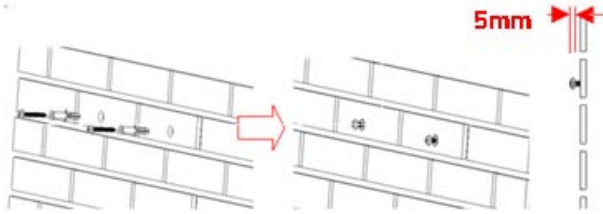

Fig. 5-2: Inserting the screws
- Step 2: Insert the wall plugs by using a rubber hammer, and insert the self-tapping screws into the wall plugs until they extend 5mm from the wall as shown in Fig. 5-2.